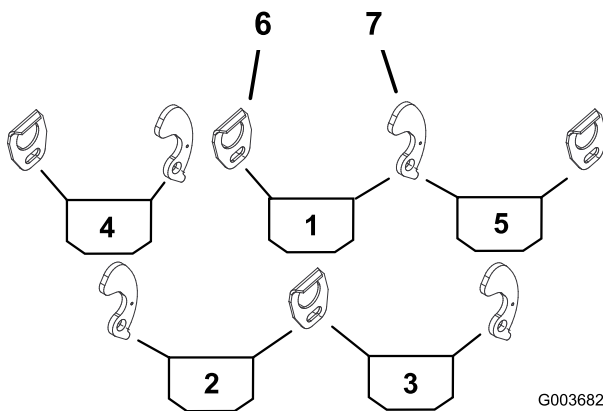

Figure 2
2. Use Figure 2 to determine the locations where the basket guides or basket brackets must be mounted to the cutting-unit carrier-frames.
3. Mount a basket guide to the appropriate side of each cutting unit carrier frame (Figure 2) with a bolt (5/16 x